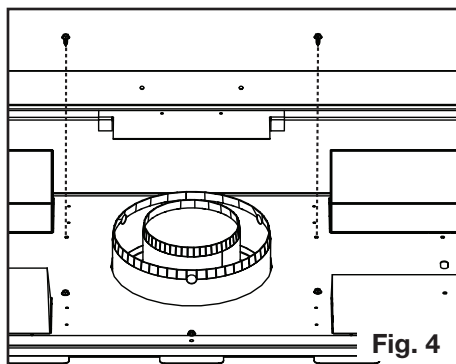

Fig. 4
4. Remove the fasteners as shown (Figure 4). DO NOT DISCARD FASTENERS